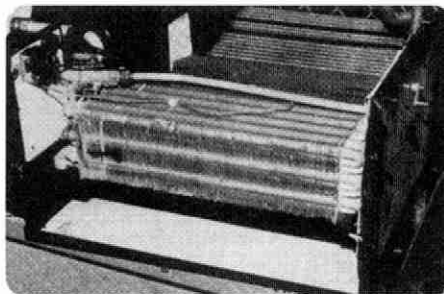

Figure 2
3. Remove plastic bottom and steel holding strap (Figure 2).